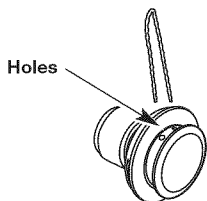

Fig. 15
4. Insert both ends of your line through the proper holes in the side of the cutting head (Fig. 15).